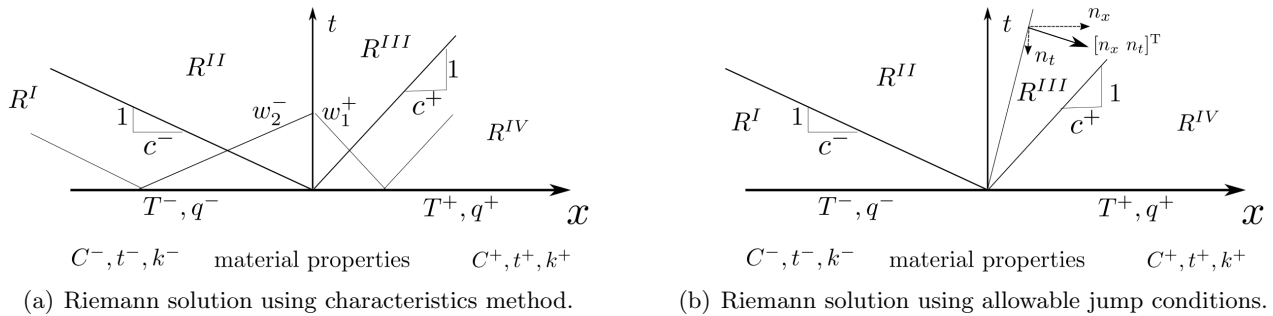

Figure 3: Riemann problem for MCV heat equation, different material properties: Two different solution methods
- (150 Points) Riemann solution with different material properties on the two sides of the interface: Referring to figure 3(a) extend your previous solution to an interface with jump in material properties. For simplicity adopt the following definition,
Finally noting that for a given ray with speed c , $c = -n_x/n_t$ we obtain (*cf.* figure 3(b)),